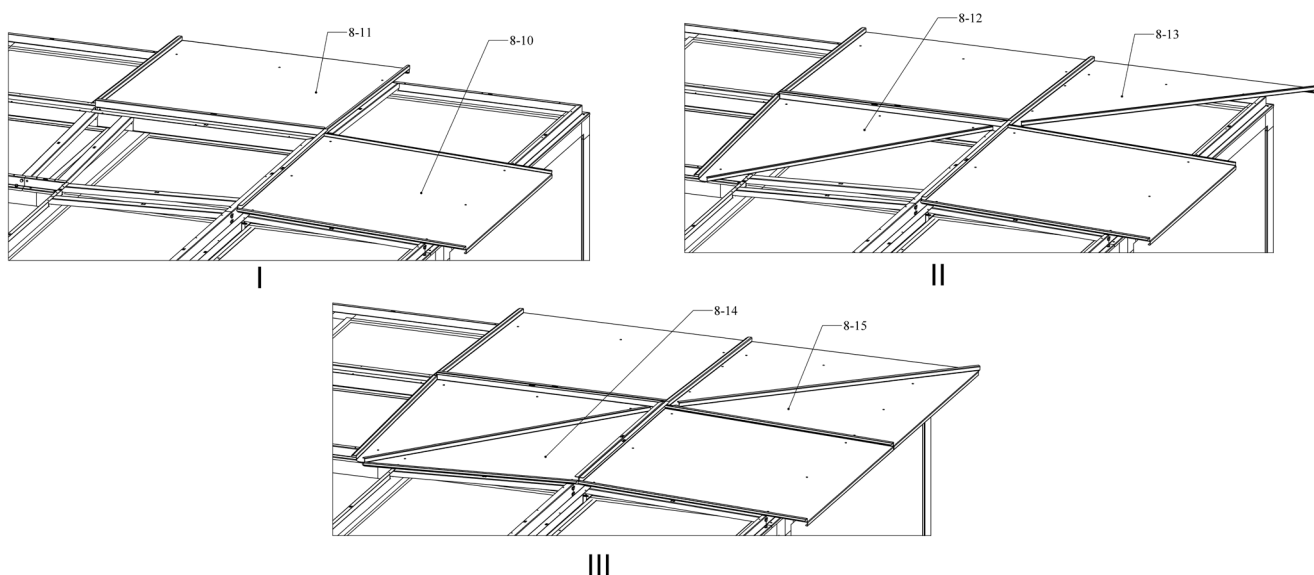

Figure 9.4
5. Start fit the roof segments from the corner section. Fit the roof segments and attach to the frame by self-taping screws supplied with the unit as shown in Figure 9.4.